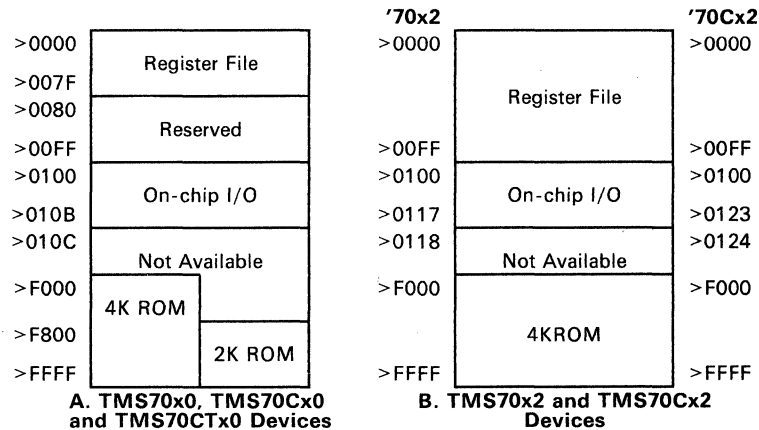

Figure 3-6. Single-Chip Mode Memory Map
Figure 3-6 shows the Single-Chip mode memory map. The unused Peripheral File (PF) locations and off-chip memory addresses cannot be addressed. If you attempt to read one of these locations, an undefined value is returned. Writing to these addresses has no effect. Peripheral-File registers P0–P11 reference the I/O ports and other on-chip functions. Table 3-8, Table 3-9, and Table 3-10 list the Peripheral-File registers that are available in Single-Chip mode.